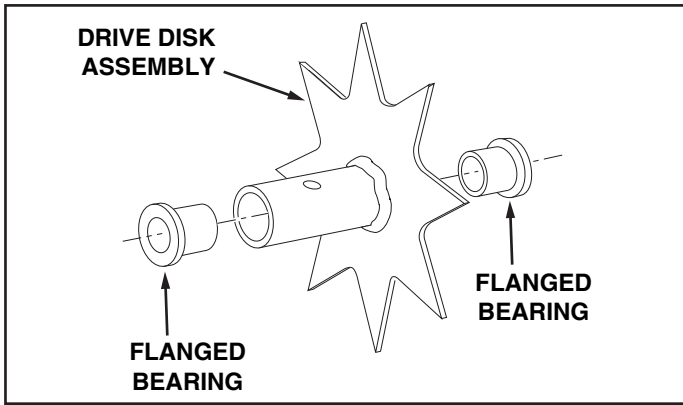

FIGURE 11
- Push two flange bearings into each of the drive disk assemblies. See figure 11.